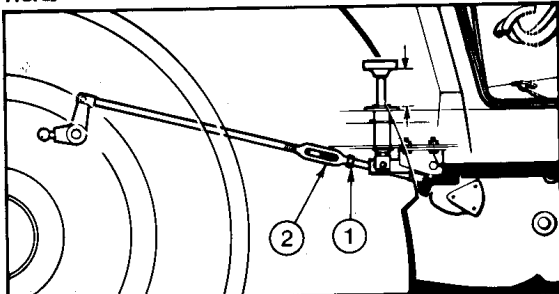

FIG. 26
1. Fig. 26. Slacken the locknut (1) and adjust the turnbuckle (2) until the correct pedal height is achieved.